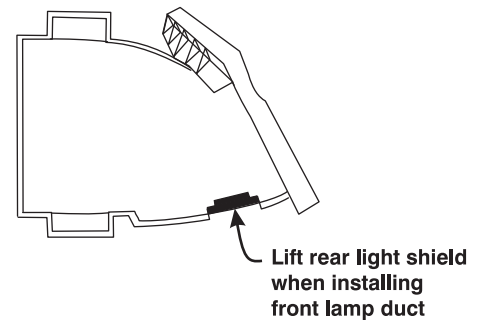

Figure 7-3 Light Shield on Front Lamp Duct
9. Re-install the front lamp duct. As you install the front lamp duct, lift the small light shield on the rear lamp duct cover so that it does not get jammed between the two pieces when they come together. (**Figure 7-3**) To ensure a good fit between the two pieces, squeeze the top and bottom cover snaps to ensure they are locked in place. The light shield should move freely to the touch.